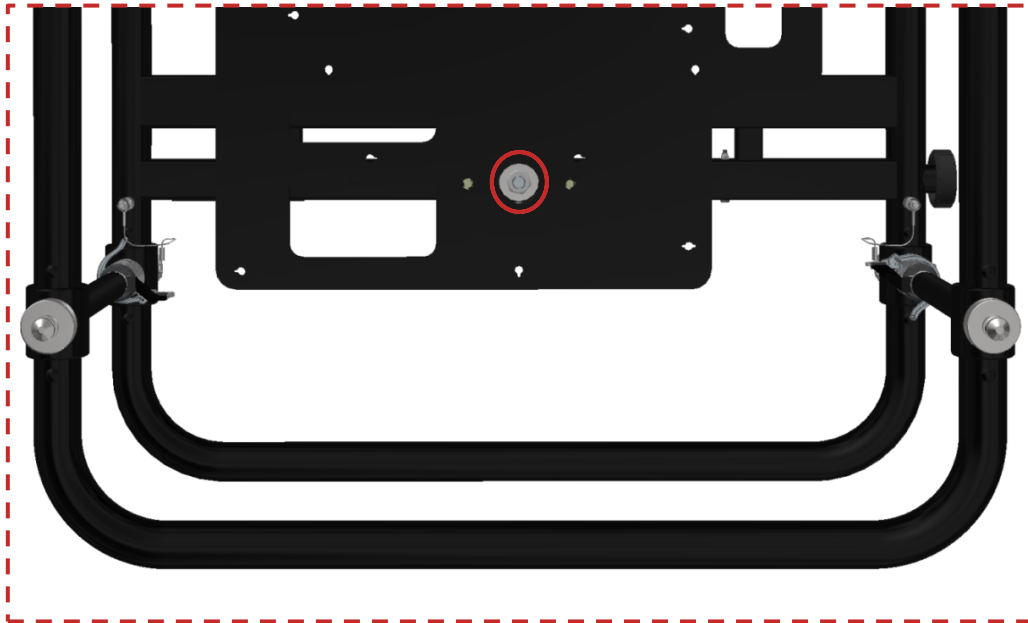

Figure 24 Nut on centre top side which is sealed with red colour wax
- On the three screws + nuts presented on the above two pictures (Figure 23 and Figure 24) red color sealing wax was applied to be sure that the nuts will always be on the same position and no one will try to tighten or loose them.
Except for the three nuts described on the previous section (see Figure 23 and Figure 24), please control, with corresponding tool, that all the other screws are properly tightened.